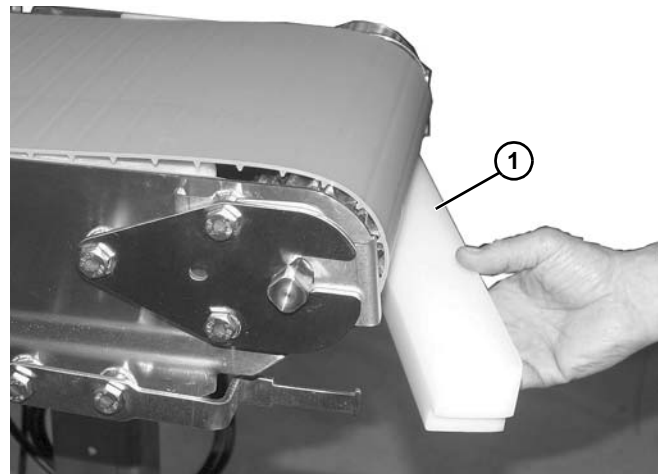

Figure 13
2. Insert limiter bar (**Figure 13, item 1**).